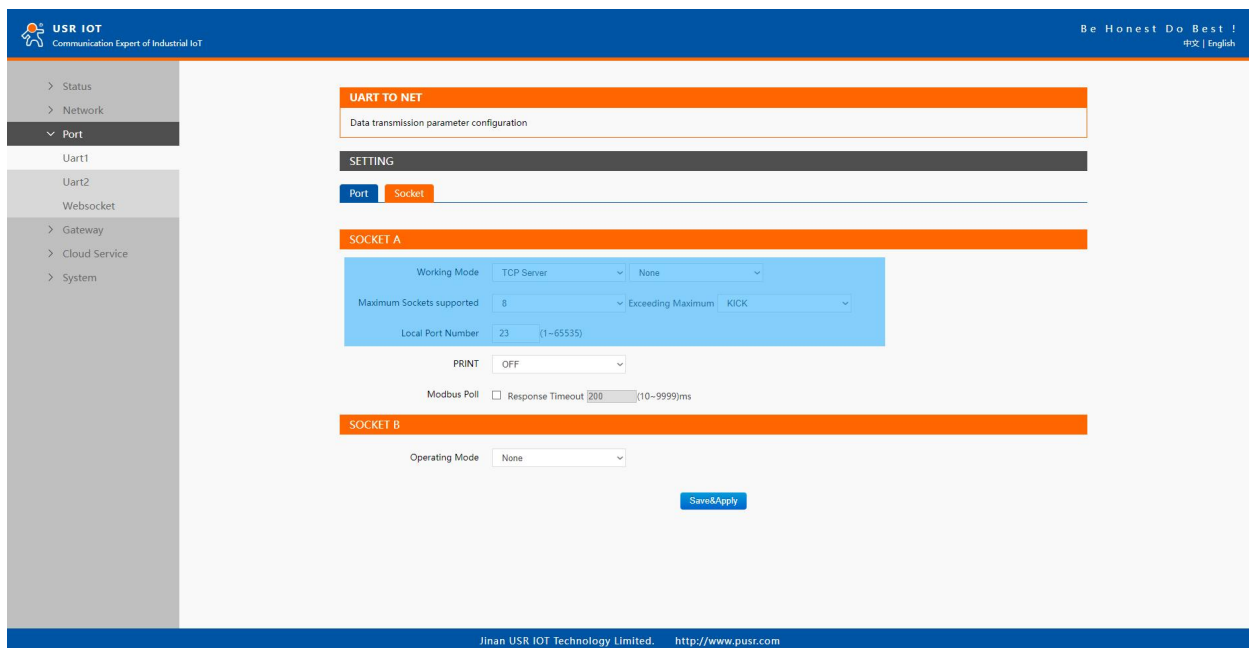

Fig. 35 TCP server work mode
The default operation mode of USR-M100 is the TCP Server mode. Fig.35 shows an example of configuration setting for TCP Server working mode under the Uart1 socket tab. You can configure other serial ports in the same way.
1. Click on the "Uart1" tab on the menu frame on the left side of Web UI to go to Uart1 page as shown in Fig.35.